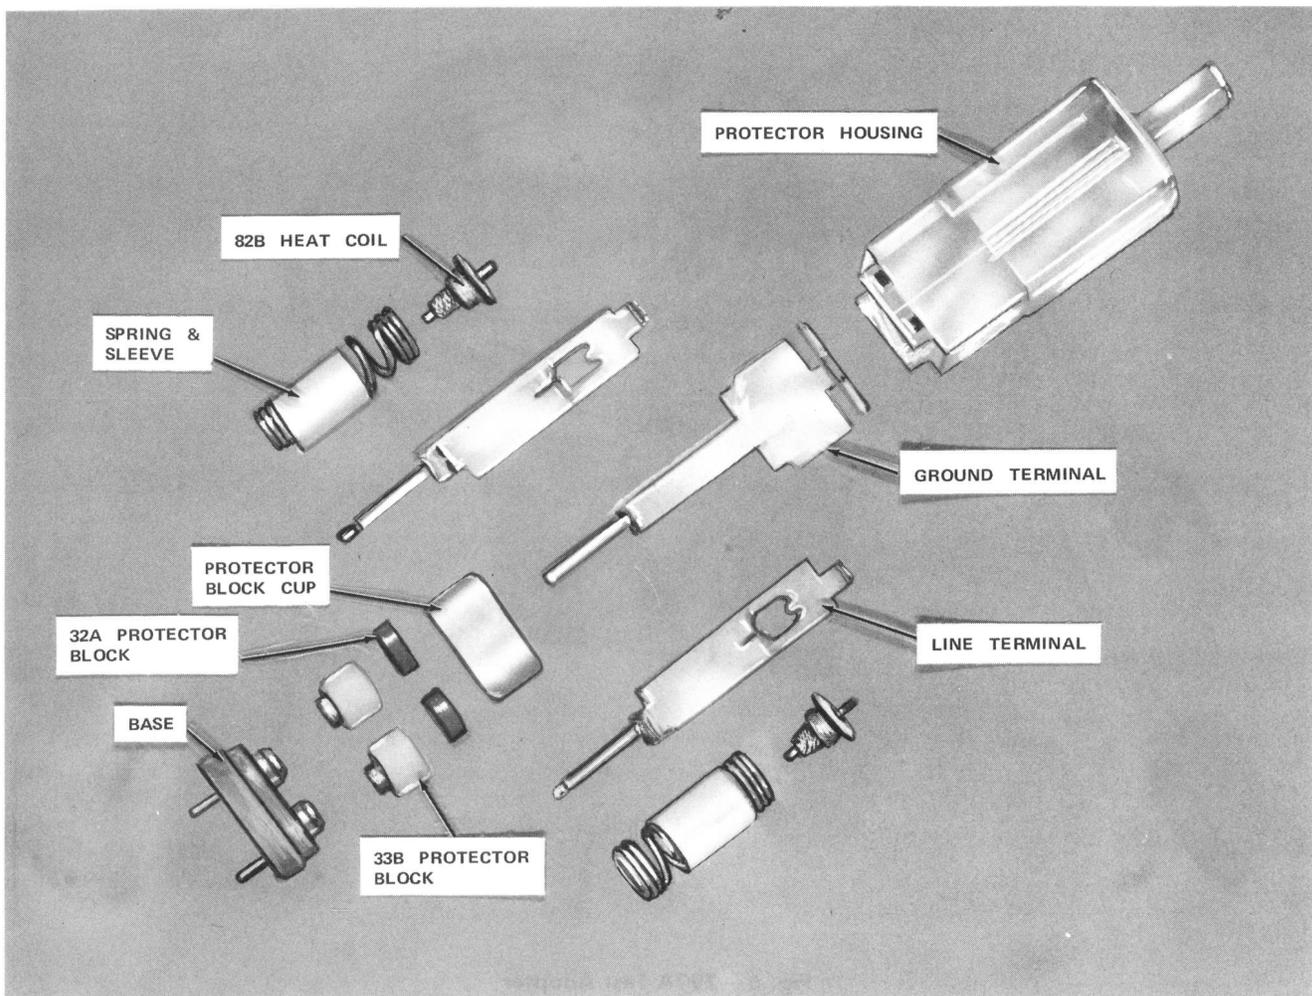

Fig. 5—4C-Type Protector Unit
5.01 There are several types of 4C-protector units used on the 307-connector. Table C identifies each type by color and application. Figure 5 identifies the parts of a protector unit. The purpose of a protector unit is to provide current and voltage protection to the inside plant equipment, except for the 4C12C-type protector unit which provides continuity on circuits not requiring protection.